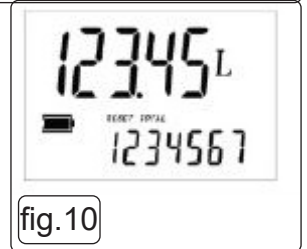

fig.10
- 5.6.4. Press RESET to set digit values (from right to left) (fig.10).
- 5.7.1. Wait for meter to go to standby (fig.10).